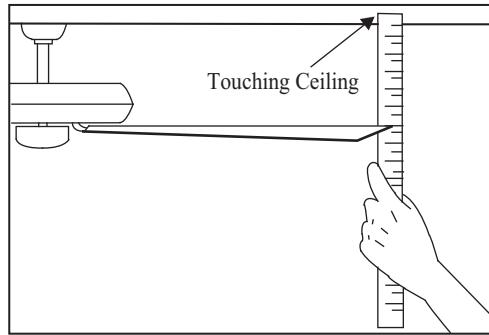

Figure 6
2. Most fan wobble problems are caused when blade levels are unequal. Check this level by selecting a point on the ceiling above the tip of one of the blades. Measure from a point on the center of each blade to the point on the ceiling. Measure this distance as shown in Figure 6. Rotate the fan until the next blade is positioned for measurement. Repeat for each blade. Measurements deviation should be within  $1/8"$ . Run the fan for 10 Minutes.